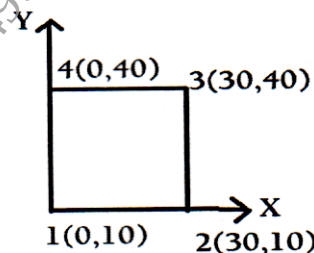

Figure:3
- b)** For four noded quadrilateral element as shown in figure 3, assemble Jacobin matrix and shape functions for the Gauss point (0.7, 0.5). [8]